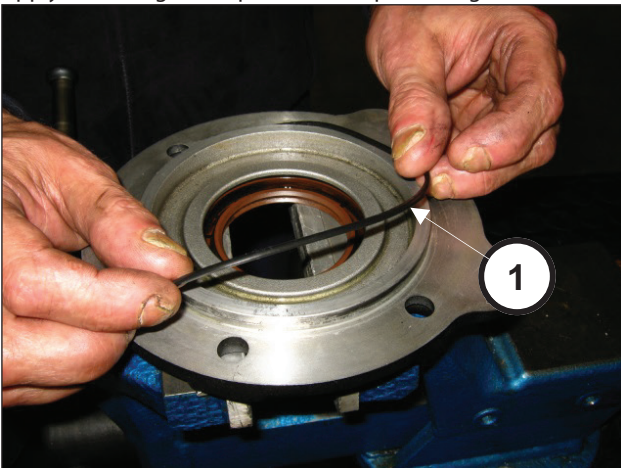

Fig. 79
Apply the O-ring to the pinion cover (pos. ①, Fig. 79).